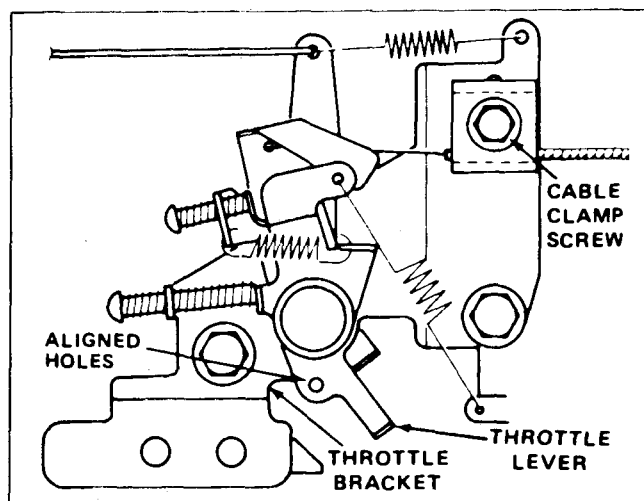

Figure 18
3. Loosen the cable clamp screw until throttle cable slides. Reference Figure 18. Align the holes in the throttle lever and throttle bracket. Tighten cable clamp screw to lock adjustment in place.